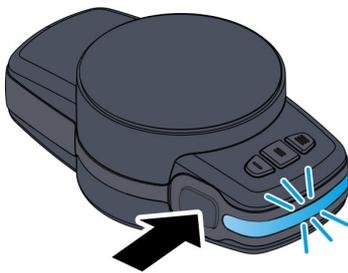

Fig. 69 Pressing the manual guidance button
01. To put the robot back into operation after a collision stop, press the manual guidance button on the media flange Fig. 69.